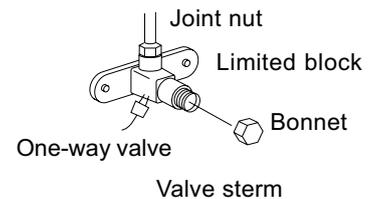

Fig.14
2. Remove cover from check valve A (As show in Fig.14)